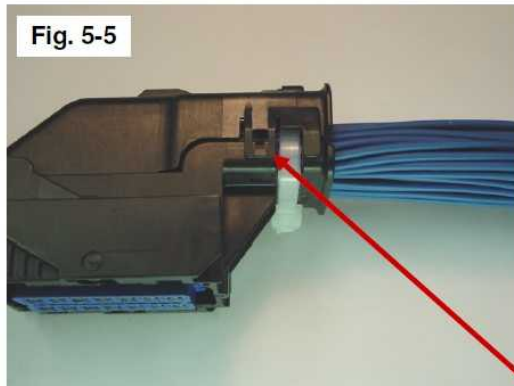
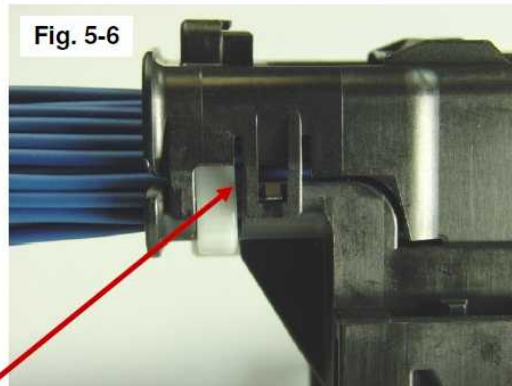

Fig. 5-5
Fig. 5-6
- With the harness connector removed from header/controller (Fig. 5-5), unlatch the dress cover latch features on each side of the dress cover guide (Fig. 5-6). A small screwdriver or similar tool can be used to release the latches.